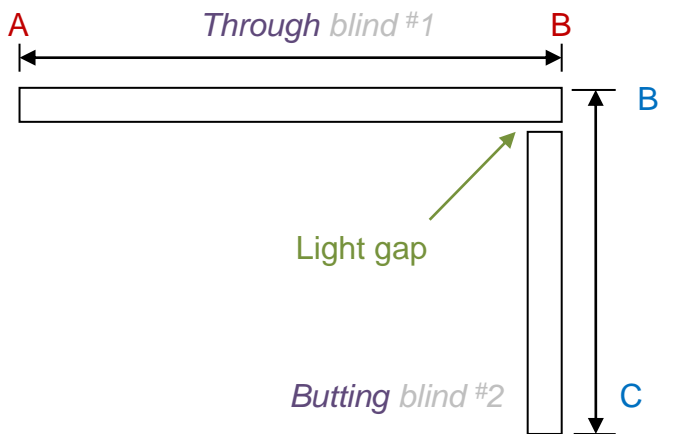

Figure 1
1. Measuring the left blind - measure at the top of your window where the blind will sit, measuring from the left side and measure the distance into the corner where the left blind will meet the centre blind or **Point A** in **Figure 1** above. Now measure your drop.
2. Measuring the centre blind - measure the distance of the centre blind from **Point A** to **Point B** in **Figure 1**. Now measure your drop.
3. Measuring the right blind - measure at the top of your window where the blind will sit, measuring from the right side into the corner where the right blind will meet the centre blind or **Point B** in **Figure 1** above. Now measure your drop.